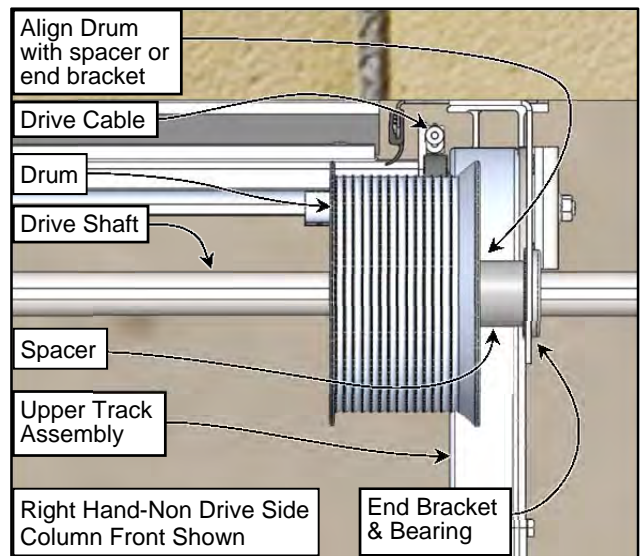

Figure 28
4. Check that the top/drive shaft cable drums are properly aligned/positioned with the door panel assembly. Confirm that the cables are properly locked in place on both ends. Adjust if necessary. (See Figure 28)